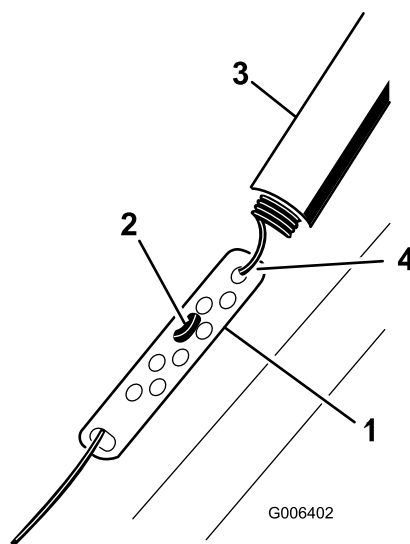

Figure 21
- Slide up the spring cover and unhook the spring from the adjuster link (Figure 21).